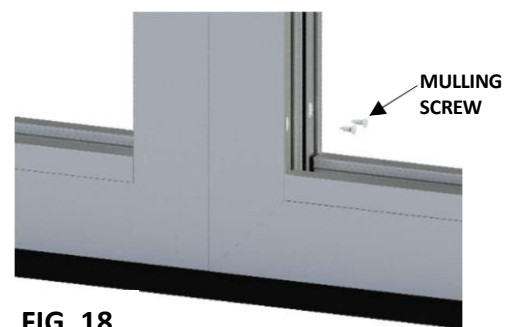

FIG. 18
- Use #8- 1 ½" long round head screws to mull the units. **(Fig. 18)**